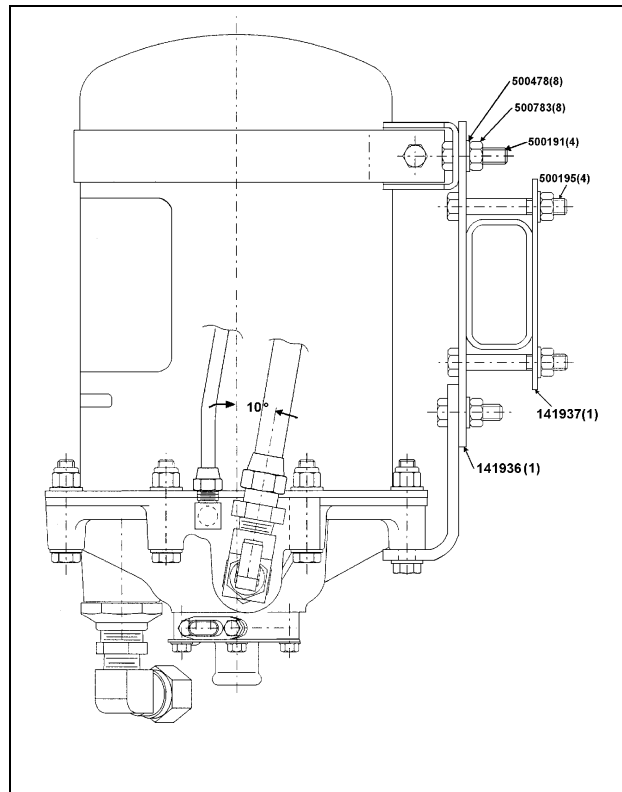

FIGURE 2: BENDIX AD-9 AIR DRYER
8. Assemble Bendix AD-9 air dryer as per figure 2 and install support plate (Prévost #141936).